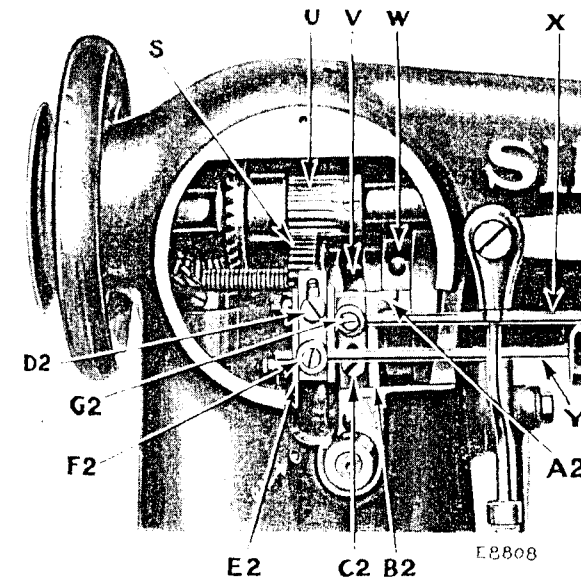
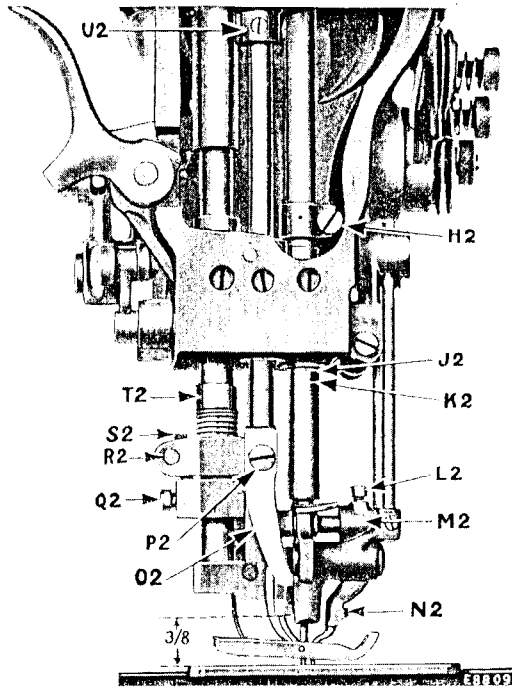
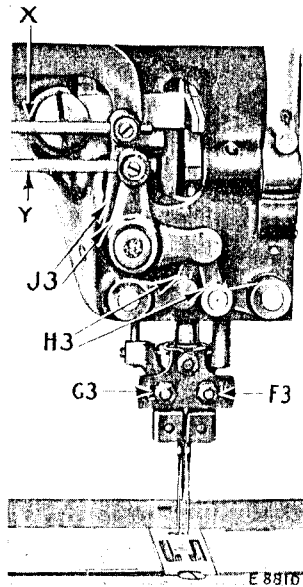
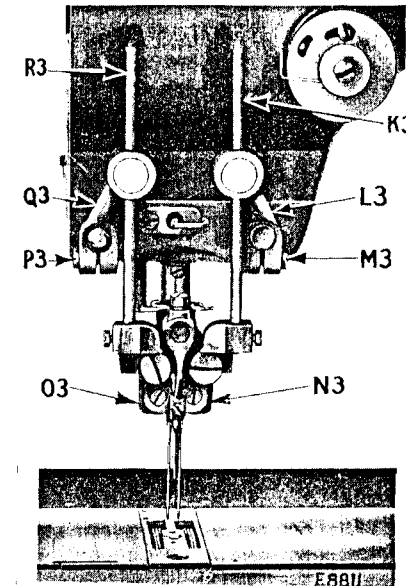

Fig. 15. Showing Timing Finger at Back of Machine For Timing Cams (S, V and W)
Fig. 16. Showing Upper Timing Mark on Needle Bar Centred with Lower End of Needle Bar Bushing at (J2)
Fig. 19. Needle Vibrating Mechanism at Back of the Machine
Fig. 20. Needle Vibrating Mechanism at Front of the Machine
Loosen the set screw (N2, Fig. 16) and put the auxiliary piercer up into the holder as far as it will go, then securely tighten the set screw (N2).
As the function of the auxiliary piercer is to open the fabric in advance of the piercer, it must be adjusted according to the length of stitch which is being made, so that the advance perforations made by it will be correctly entered by the piercer and needles. To make this adjustment, loosen the screw (L2, Fig. 16) and move the auxiliary piercer holder (M2, Fig. 16) forward or backward, as required, then securely tighten the screw (L2).
To determine whether the feed lifting cam and gear (S, Fig. 15), needle vibrating cam (V, Fig. 15) and feed driving
cam (W, Fig. 15) are correctly timed, raise the round cover plate at the rear of the machine. Turn the balance wheel over toward you until the needle bar is on its upward stroke, after having completed the stitch on the hem, and the lower timing mark (K2, Fig. 16) on the needle bar is just visible at the lower end of the needle bar bushing. When the needle bar is in this position, the horizontal marks on the needle vibrating cam (V) and feed driving cam (W) and the line on the side of the ground-off tooth of the feed lifting cam and gear (S) should be in line with each other and register at the top end of the needle vibrating lever (A2, Fig. 15). A slight deviation may then be made to obtain the results desired.
In case the cams (S, V and W) are in time with each other, but not in time with the needle bar, loosen the two set screws in the small gear (U, Fig. 15) and turn the feed lifting cam gear (S) until the lines on the cams (V and W) register with the end of the timing finger (A2), then tighten the two set screws. When making this adjustment, be sure to have the lower timing mark (K2, Fig. 16) on the needle bar just visible at the lower end of the needle bar bushing, when the needle bar is on its upward stroke after having completed the stitch on the hem.
Turn the balance wheel over toward you until the needle bar moves down to its lowest point. When the needle bar is in this position, the upper timing mark (J2, Fig. 16) on the needle bar should be just visible at the lower end of the needle bar bushing.
In case the needle bar is not set at the correct height, loosen the pinch screw (H2, Fig. 16) in the needle bar connecting stud and move the needle bar up or down until it is at the correct height, as instructed above, then firmly tighten the screw (H2) in the needle bar connecting stud.
To determine whether the hooks are correctly timed, turn the balance wheel over toward you until the lower timing mark (K2, Fig. 16) on the needle bar is just visible at the lower end of the needle bar bushing, when the needle bar is on its upward stroke. When the needle bar is in this position, the points of the hooks should be at the centre of the needles.
The needle vibrating mechanism is operated by the gear (U, Fig. 15), which drives the needle vibrating cam (V, Fig. 15) which in turn actuates the needle vibrating lever to which are attached the connections (B2 and E2, Fig. 15). The vibrating motion is transmitted from the needle vibrating lever to the needle holders (N3 and O3, Fig. 20) by means of the connections (B2 and E2, Fig. 15), the pitmans (X and Y, Fig. 19), the bell cranks (J3, Fig. 19), the links (H3, Fig. 19), the cranks (L3 and Q3, Fig. 20) and the rods (K3 and R3, Fig. 20), causing the spreading and drawing in action of the needles.
On the outside vibration of the needles, the pitmans (X and Y, Fig. 19) draw the needle vibrating rods (K3 and R3, Fig. 20) toward each other, by their connection with the needle holders (N3 and O3, Fig. 20). On the inside vibration of the needles, the pitmans (X and Y) spread the needle vibrating rods (K3 and R3).
As the needle vibrating pitmans (X and Y, Fig. 15) are independently mounted, they must be separately adjusted.
The lower pitman (Y, Fig. 15) controls the vibrations of the left or outside needle. To make the left needle vibrate farther to the left over the edge of the material, loosen the screw (F2, Fig. 15) and lengthen the lower pitman (Y), then securely tighten the screw (F2).
The upper pitman (X, Fig. 15) controls the vibrations of the right or inside needle. To make the inside needle vibrate farther to the right over the edge of the material, loosen the screw (G2, Fig. 15) and lengthen the upper pitman (X), then securely tighten the screw (G2).
Either needle can be set closer to or farther from the other by loosening the nuts (F3 and G3, Fig. 19) and moving the needle holders (N3 and O3, Fig. 20) as required, then securely tighten the nuts (F3 and G3).
The width of bight or extent of the lateral vibration of the needles is regulated by raising or lowering the needle vibrating connections (B2 and E2, Fig. 15) which are fastened by the screws (C2 and D2, Fig. 15).
of the piercer. If the points of the needles appear outside of the grooves of the piercer on the descending inside vibration, a very fine adjustment may be made by loosening the two screws (M3 and P3, Fig. 20) and swinging the needle vibrating cranks (L3 and Q3, Fig. 20) to the right or left, as may be required, after which securely tighten the two screws (M3 and P3).
When the piercer bar is at its lowest point, the bottom end of the piercer holder (O2, Fig. 16) should be  $\frac{3}{8}$  inch above the throat plate, as shown in Fig. 16. The piercer bar can be set at the required height after loosening the set screws at U2 in Fig. 16. The piercer must not enter the fabric before the feed dog finishes its forward movement, otherwise clear opening cannot be made.
To set the outside foot plate lower than the inside foot plate, loosen the pinch screw (R2, Fig. 16) and turn the upright screw (S2, Fig. 16) outwardly, then tighten the pinch screw (R2). The pressure of the foot plate on the material should be only heavy enough to enable the feed to move the work along evenly regardless of variations in the thickness of the fabric to be hemstitched.
To increase the pressure of the outside foot plate on the material, loosen the set screw in the collar (T2, Fig. 16) and lower the collar to compress the spring, then tighten the set screw. For less pressure, raise the collar.